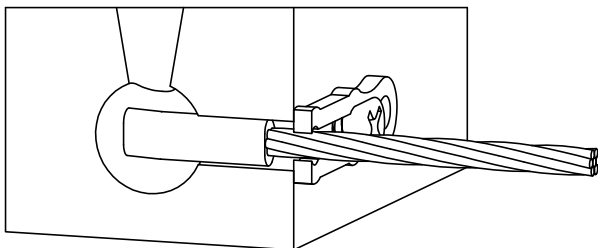

FIGURE 1
3. Prior to locking the mold to the rail web: Place bond-end into the mold. See Figure 1.